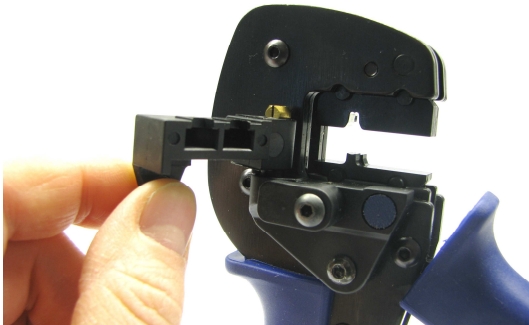

Figure 3
1. Before inserting a contact the tool needs to be opened fully. Now the locking is opened by turning it, the contact positioner is swivelled out to the front and the contact is pushed to the stop into the positioner. Pay attention that the u-profile of the crimping- and insulation flanks shows upwards in direction of the crimper (see figure 3 and 4).